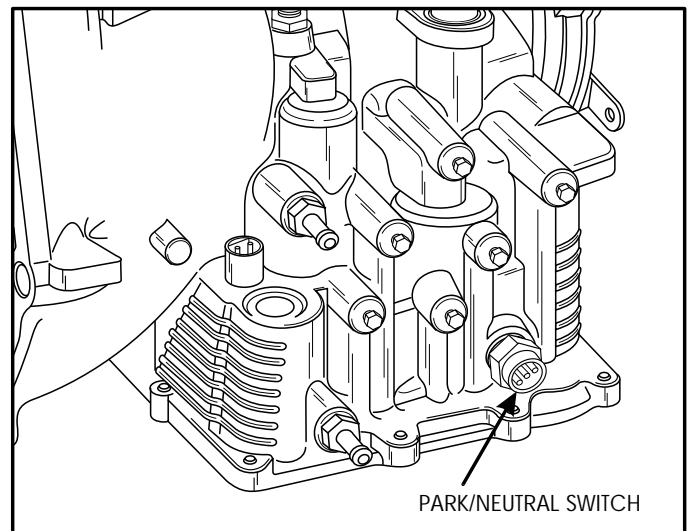

Figure 34
12. Remove the Park/Neutral switch from case to relieve pressure on valve body (See Figure 34).